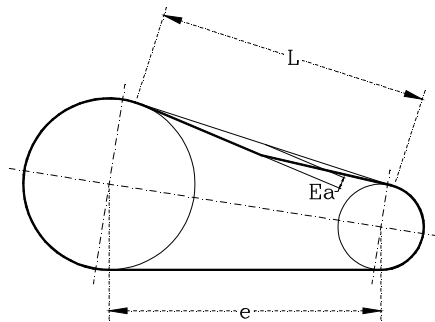

Fig.1 (Belt-Drive scheme)
Depending on the installation site and type of fan operation, it is recommended to check the belt tension and their alignment regularly. This is compulsory for Atex spark-proof applications according to EN 14986. Operate only by means of the motor rails, if present. Belt displacement E_a (see scheme in fig.1) must be calculated according to the formula (1) and the values mentioned in table 1 in the Appendix: